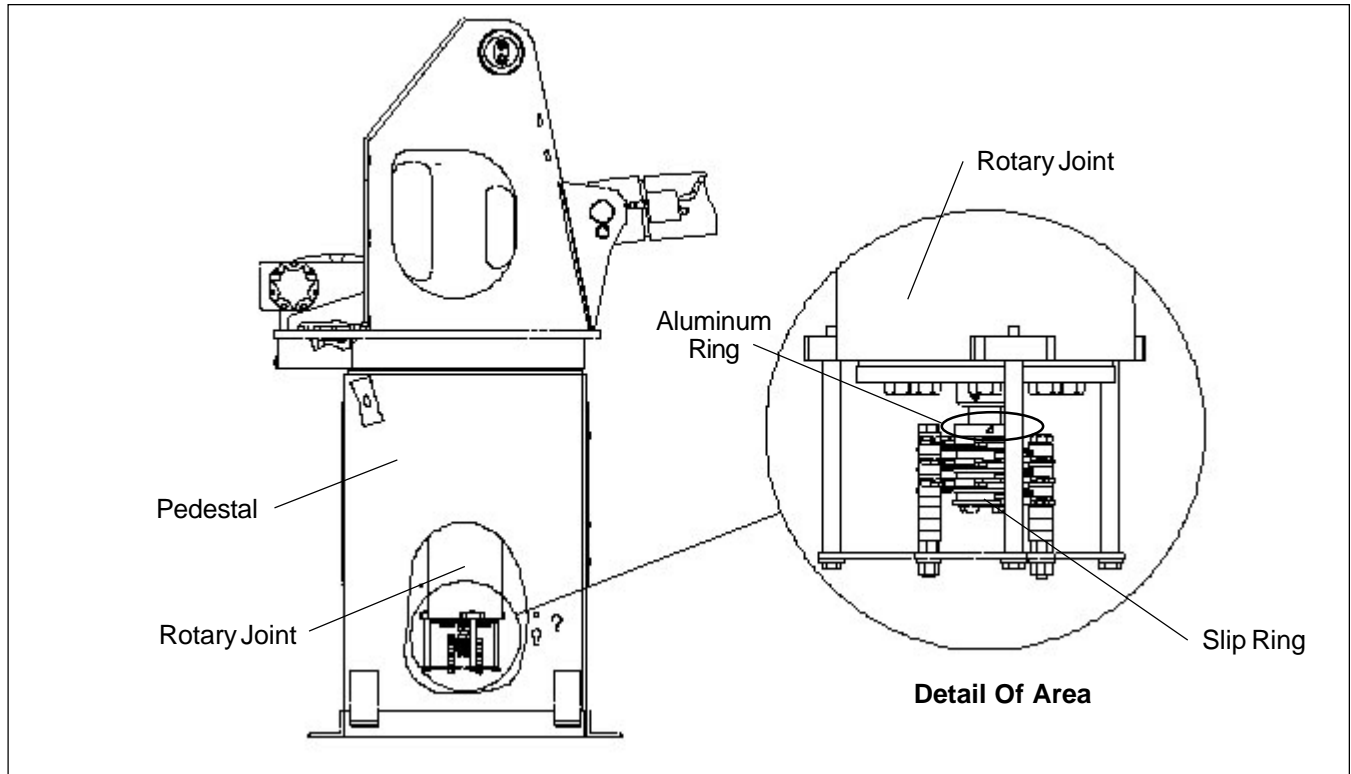

Figure 1 — Slip Ring Mounting
2. Grip the aluminum ring at the top of the slip ring (refer to Figure 1) and try to turn it clockwise and counter clockwise. If the ring cannot be turned, go to Step 3. If the ring can be turned, go to Step 5.